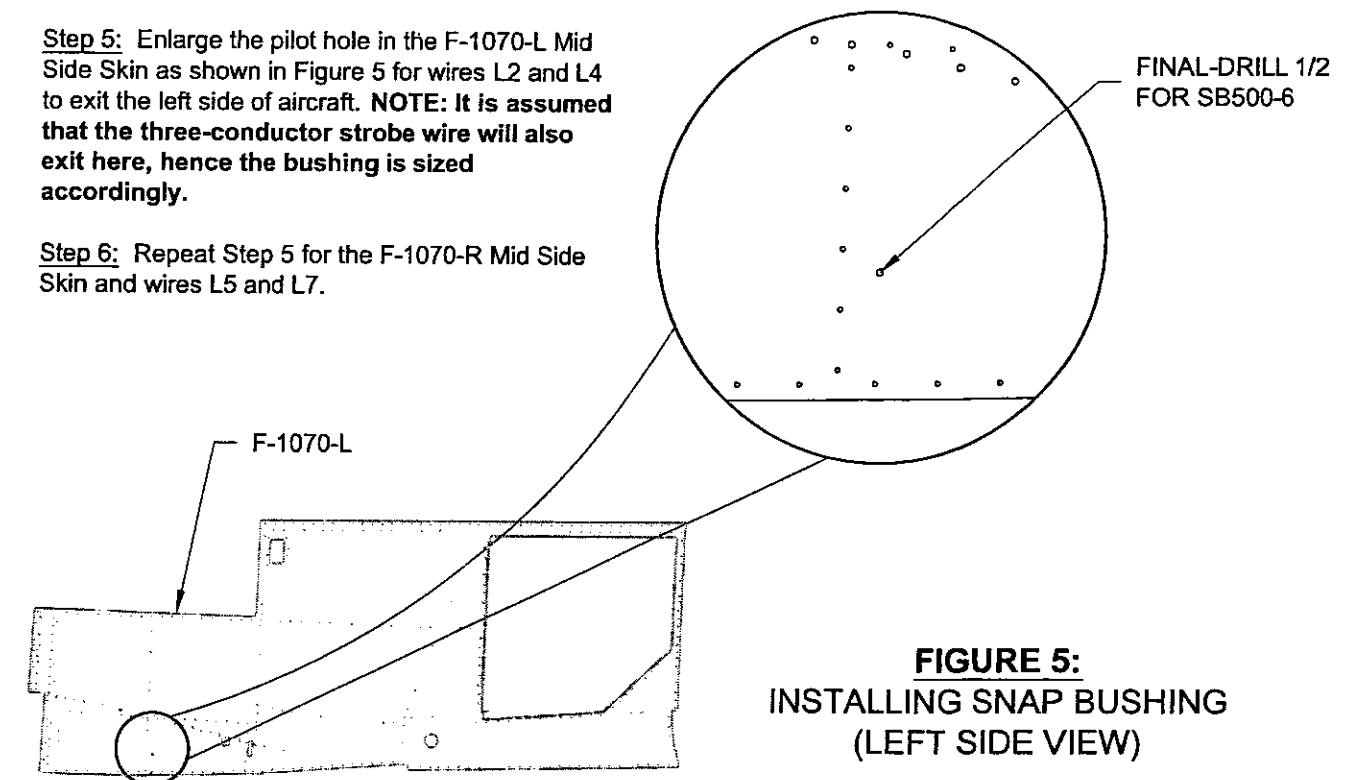

FIGURE 5: INSTALLING SNAP BUSHING (LEFT SIDE VIEW)
Step 5: Enlarge the pilot hole in the F-1070-L Mid Side Skin as shown in Figure 5 for wires L2 and L4 to exit the left side of aircraft. **NOTE:** It is assumed that the three-conductor strobe wire will also exit here, hence the bushing is sized accordingly.